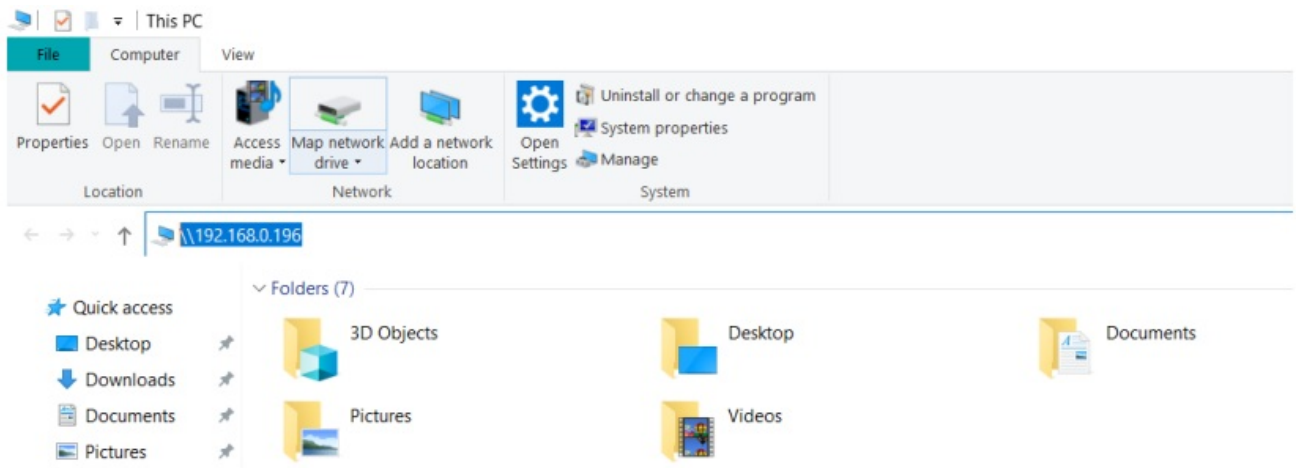

Figure 5-1 Data Copy
3. Open "my computer" (computer) and type "\192.168.0.196" in the address box, as shown in Figure 5-1: